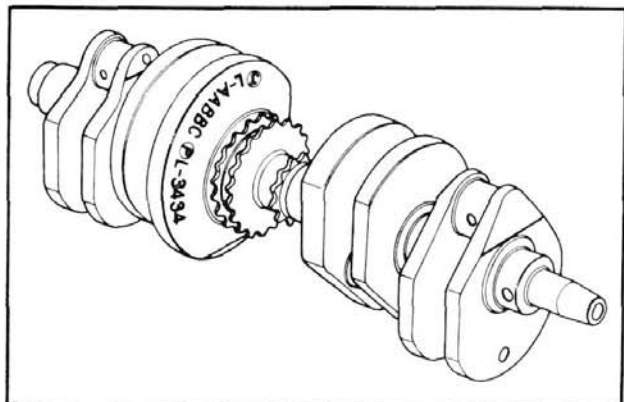

Fig. 3-81
The size marks of crankshaft journals were changed from イ (I) □ (RO) ハ (HA) and ニ (NI) to A, B and C. These marks are stamped on the side of the crank weight on the drive sprocket side together with the crankpin size marks. (Fig. 3-81)
- Numbers (3, 4, 5) are stamped on the side surface of the crank weight, this indicates the crank pin size. (Fig. 3-81)